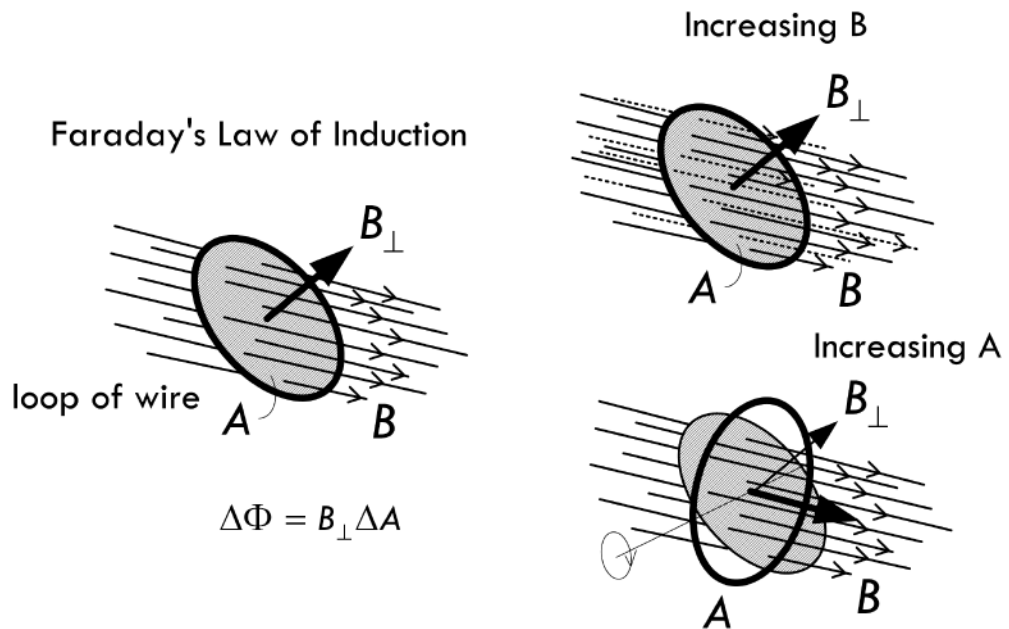

FIGURE 2.116 Illustration of Faraday's law of induction.
where Φ_M is the magnetic flux threading through a closed-loop circuit (which is equal to the magnetic field B dotted with the direction surface area—both of which are vectors, and summed over the entire surface area—as the integral indicates). According to the law, the EMF can be induced in the circuit in several ways: (1) the magnitude of B can vary with time; (2) the area of the circuit can change with time; (3) the angle between B and the normal of A can change with time; (4) any combination of these can occur. See Fig. 2.116.